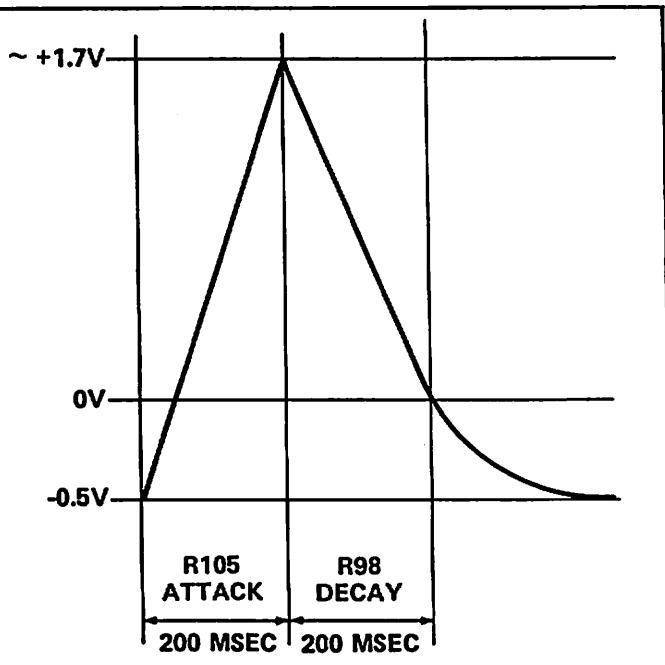

FIGURE 4-8 FILTER CONTOUR AT Q20 SOURCE
- c) Adjust filter decay and attack trim pots R98 and R105 until the filter contour matches the pattern shown in Figure 4-8.